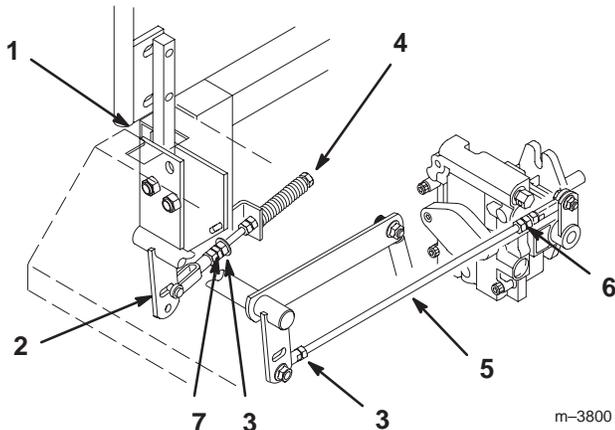

Figure 52
2. Begin with either the left or right motion control lever. Move the lever to the neutral (but not locked) position and pull the lever back until the clevis pin (on the arm below the pivot shaft) contacts the end of the slot (just beginning to put pressure on the spring) (Fig. 52).
3. Check where the lever is relative to the notch in the console. It should be centered allowing the lever to pivot outward to the neutral lock position (Fig. 52).
4. Loosen the locknut at the ball joint on the pump control rod (Fig. 52).
6. Adjust the pump rod length by rotating the double nuts on the rod, in the appropriate direction, until the wheel is still or slightly creeps in reverse (Fig. 52).